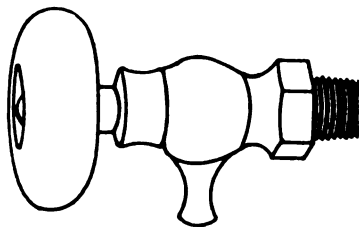

Fig. 94.—Wood Wheel Air Valve.
A. The regular type of positive air valve for steam is illustrated by Fig. 94. This valve is provided with a wood wheel or handle for operating it, and must always be opened and closed by hand.